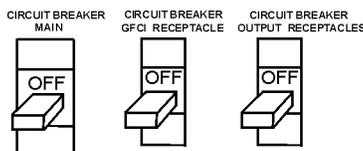

Figure 31. Main, GFCI and Load Circuit Breakers
1. Be sure to disconnect the electrical load and switch the *main*, *load* and *G.F.C.I.* circuit breakers (Figure 31) to the "OFF" position prior to starting the engine.
These receptacles will **ONLY** function when commercial power has been supplied to them (Figure 31). To apply commercial power to these receptacles, a power cord of adequate size will be required.